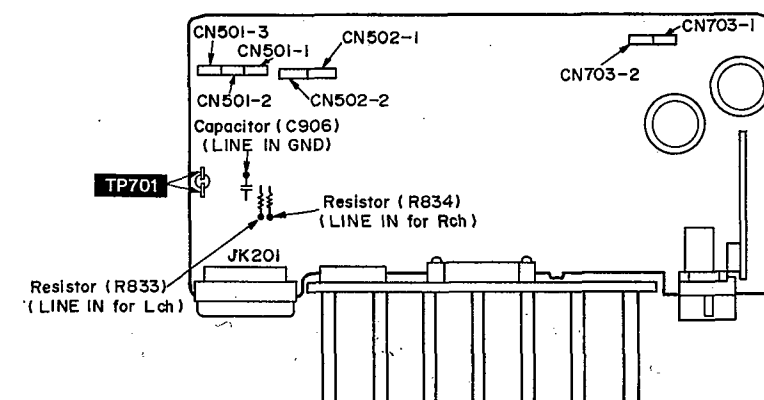

Fig. 1
2. Make test point TP701 (TP701) short as shown in Fig. 1. POWER indicator lights and this unit comes to power ON mode.
1. Connect an AF oscillator and AC to the amplifier, as shown in Fig. 1.